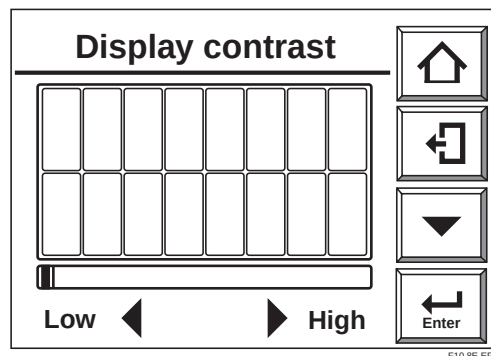

Fig. 10.8 Contrast Adjustment Display
- 2) If you press the Enter key then the contrast adjustment display of Fig. 10.8 appears.